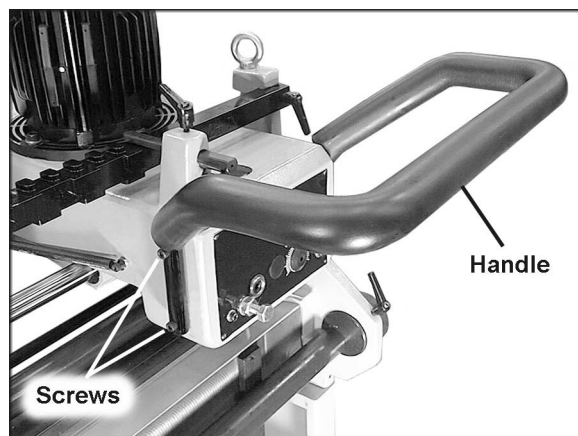

Figure 3
The rubber-covered handle (Figure 3) has been placed backwards for shipping purposes, and must be reversed before operating the machine.
1. Remove the four socket head cap screws from the headstock (two of them are holding the handle), and turn the handle around as shown in Figure 3.